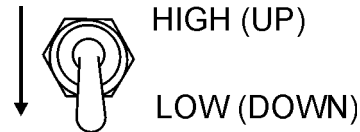

Figure 62. Engine Speed Switch
2. Set the engine speed switch (Figure 62) to the idle (low) position.